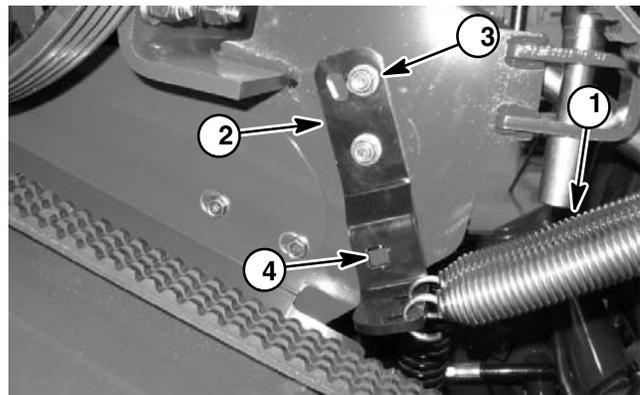

Figure 13
NOTE: If desired, extension spring tension can be removed from idler pulley by loosening two (2) flange nuts that secure spring arm to frame. Use 1/2" drive breaker bar inserted into spring arm to hold arm, remove upper carriage screw and flange nut and rotate spring arm to relax spring (Fig. 13).